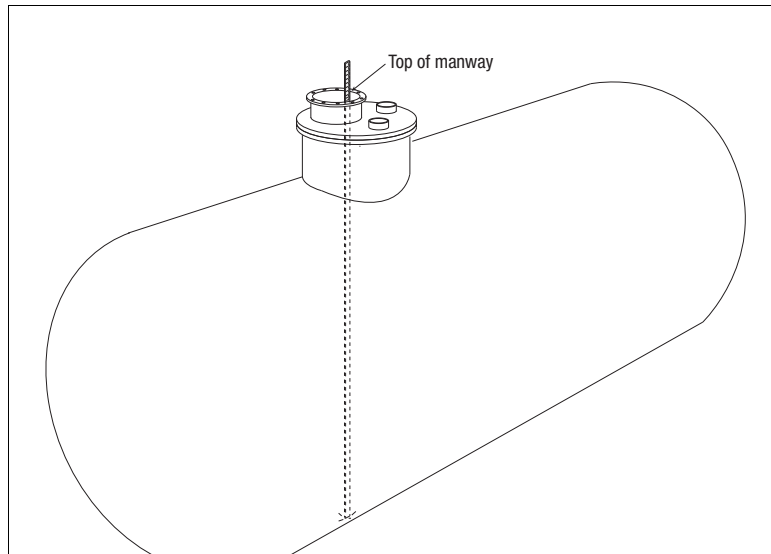

Figure 8. Measuring Tank
2. Measure the distance from the bottom of the tank to the top of the manway as shown in Figure 8.